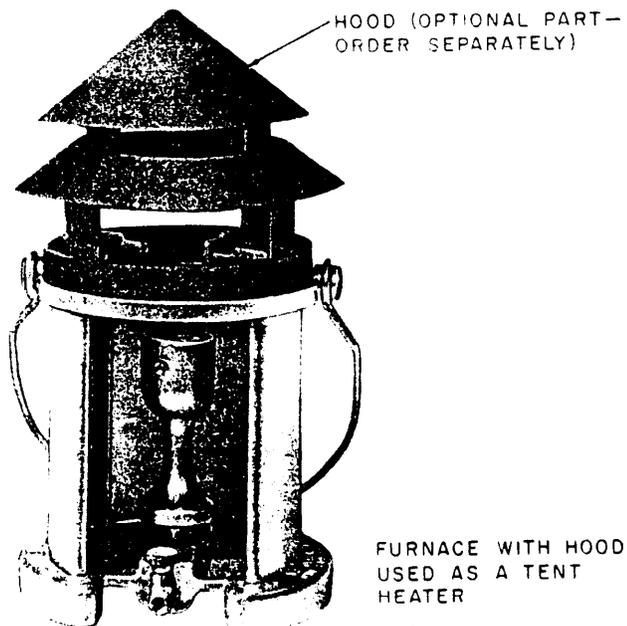

Fig. 2 - Hood in Place on Furnace
- 2.02 The hood is placed on the furnace as shown in Fig. 2 when the furnace is used as a tent heater.